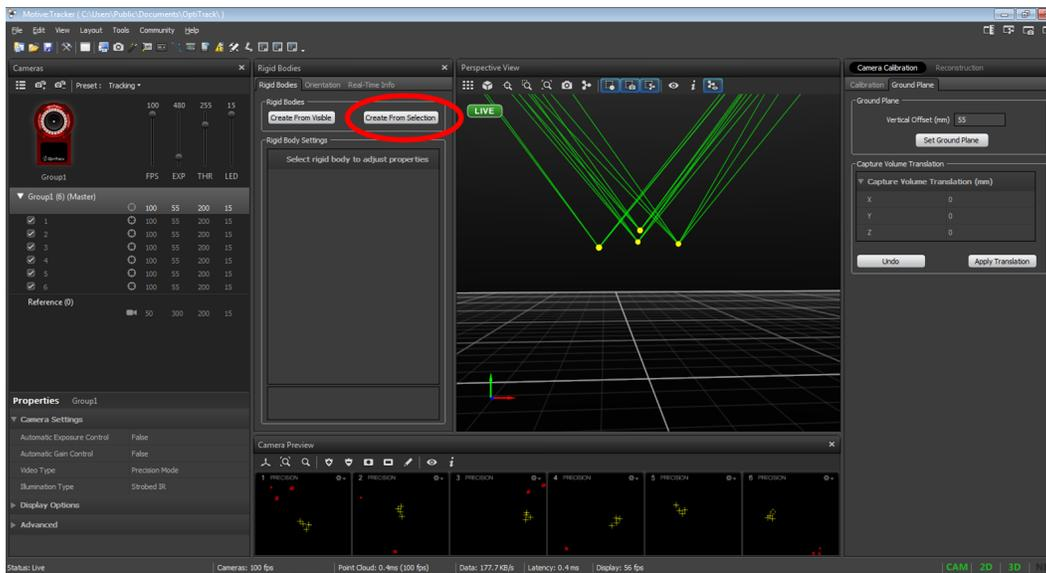
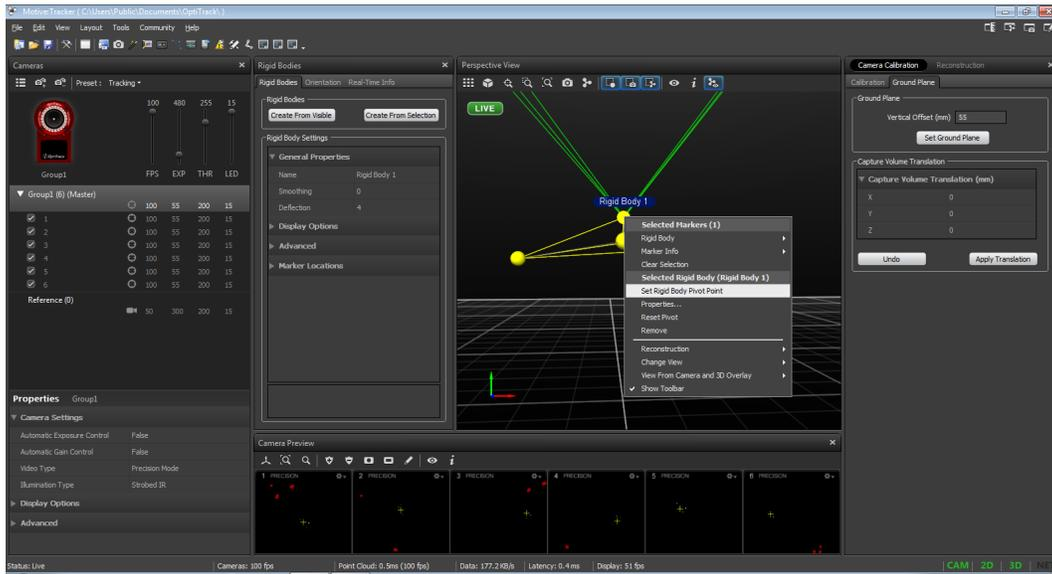

Figure 6.17: Select the markers to create a rigid body object
Figure 6.18: Set the new rigid body pivot point
5. Using the mouse, select the markers corresponding to the QBall 2 as shown in Figure 6.17.
6. Click on the Create From Selection button shown in Figure 6.17. The previously highlighted markers now show up as Rigid Body 1, as seen in Figure 6.18.
7. The pivot point of the rigid body must now be moved to the center of the QBall 2. Select the QBall 2 rigid body in the left side *Project Explorer* pane. While the rigid body is selected, hold the CTRL key and select the top-most marker on the QBall 2 and set it as the pivot point by right-clicking it and select Set Rigid Body Pivot Point, as shown in Figure 6.18.